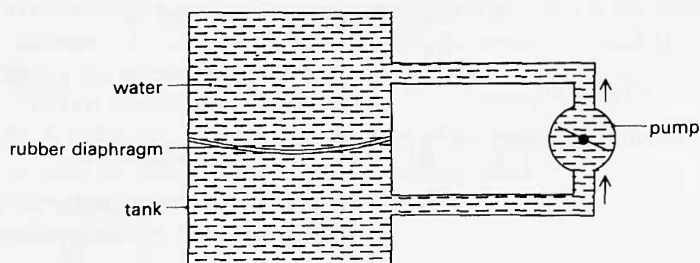

Figure B88
- 40(E)** Figure B88 shows a plan view of a model intended to represent a capacitor in a circuit.